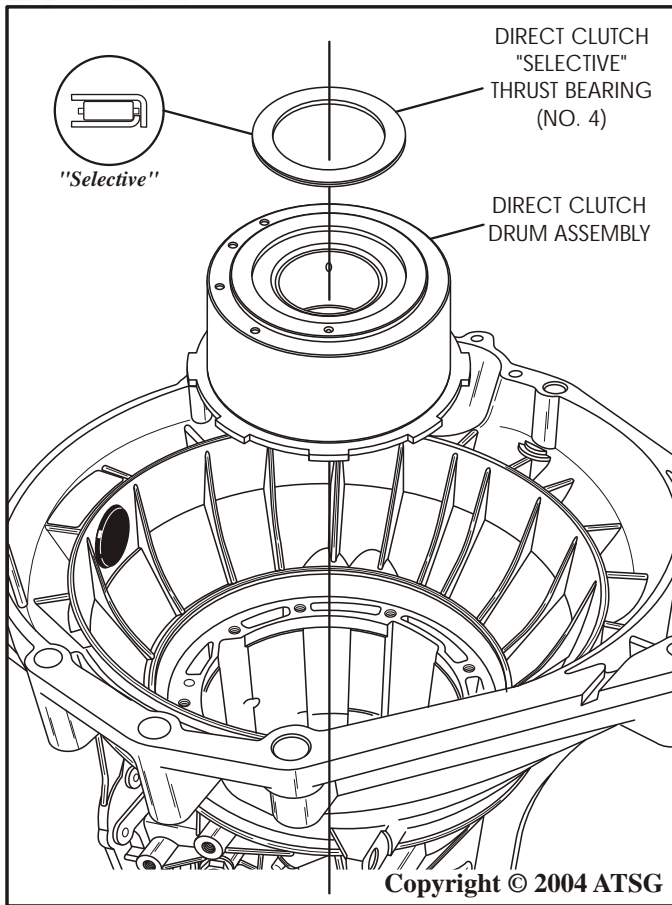

Figure 148
32. After you have recorded the first measurement, install the pre-assembled direct clutch housing, as shown in Figure 148.
33. Install the number 4 thrust bearing in position on the direct clutch drum, in the direction that is shown in Figure 148.